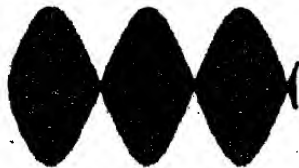

Figure 3-2
- Confirm that the DSB(Double Side Band) signal is obtained by adjusting the CARRIER LEVEL control. Refer to Figure 3-2.